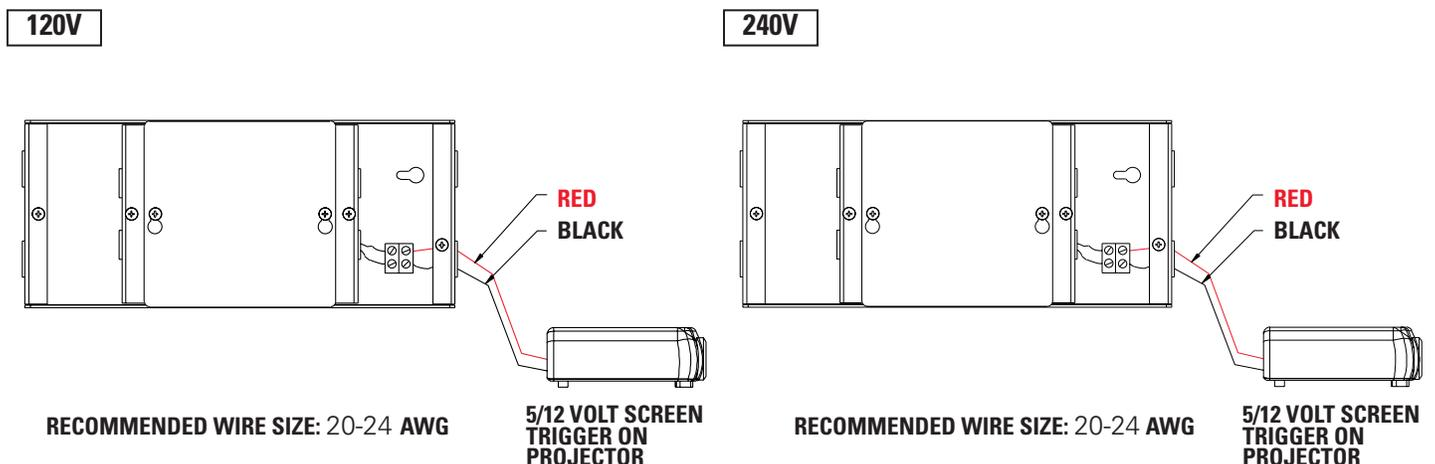

FIGURE 1
2. Connect the wires from the VPI that are labeled “Low Voltage Connection” to the end of the extended screen trigger wires above. See Figure 1.